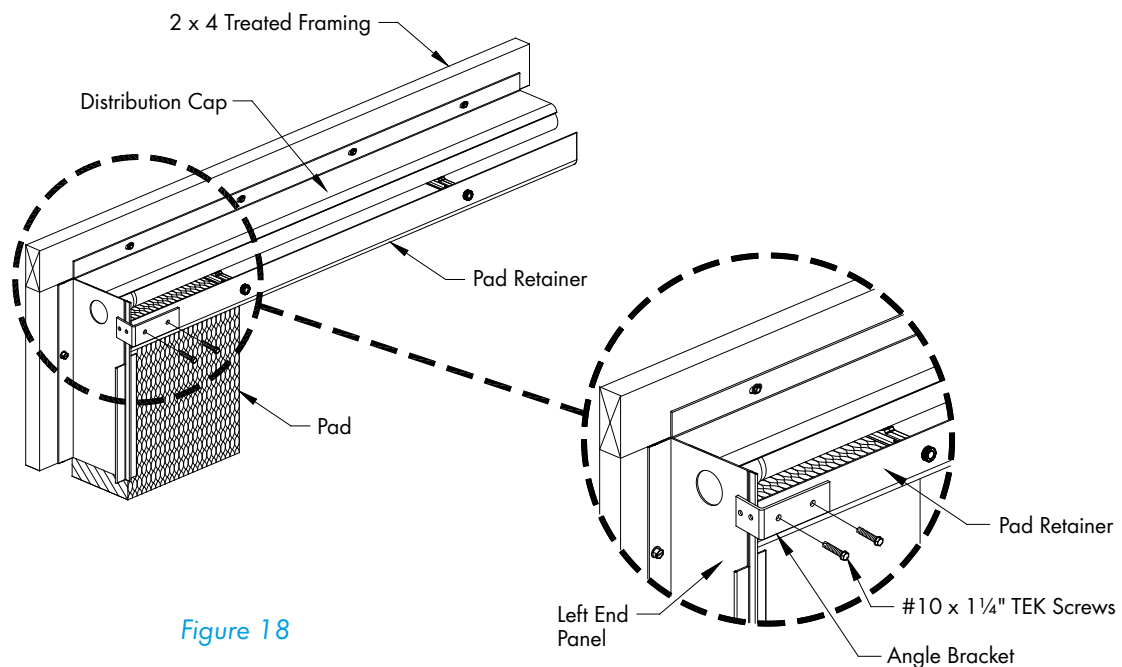

Figure 18
Holding the left End Panel tight to Distribution Cap, place the long side of the Angle Bracket on the Pad Retainer and the short side over End Panel. See Figure 18. Attach the Angle Bracket to the Pad Retainer using (2) #10 x 1 ¼" TEK Screws (provided). Repeat for Right End Panel.